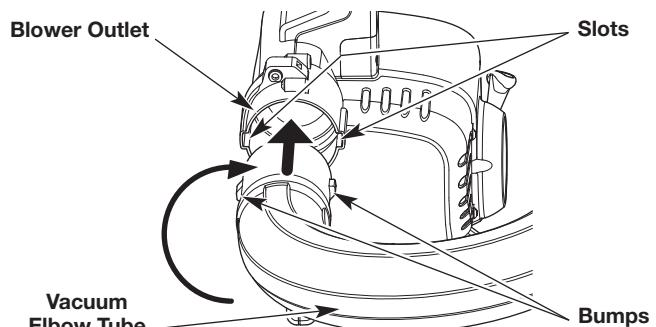

Fig. 6
1. Align the bumps on the vacuum elbow tube with the slots on the blower outlet (Fig. 6). The flared end of the vacuum elbow tube should point to the right.
2. Insert the vacuum elbow tube into the blower outlet (Fig. 6).
3. Twist the vacuum elbow tube clockwise until it locks into place (Fig. 6).